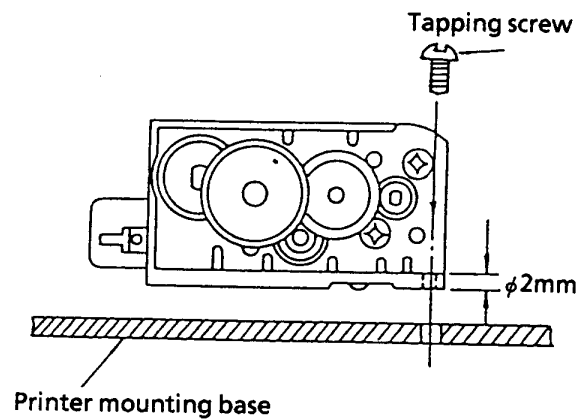

Figure 8-5 Mounting with Screws (MTP201 and 401 Printer)
- ① When mounting with screws With the  $\phi 2.2$  mm holes at the corners of the printer as a reference for positioning, fix the printer on the printer base by tightening the tapping screws from the top of the printer (see Figure 8-5).